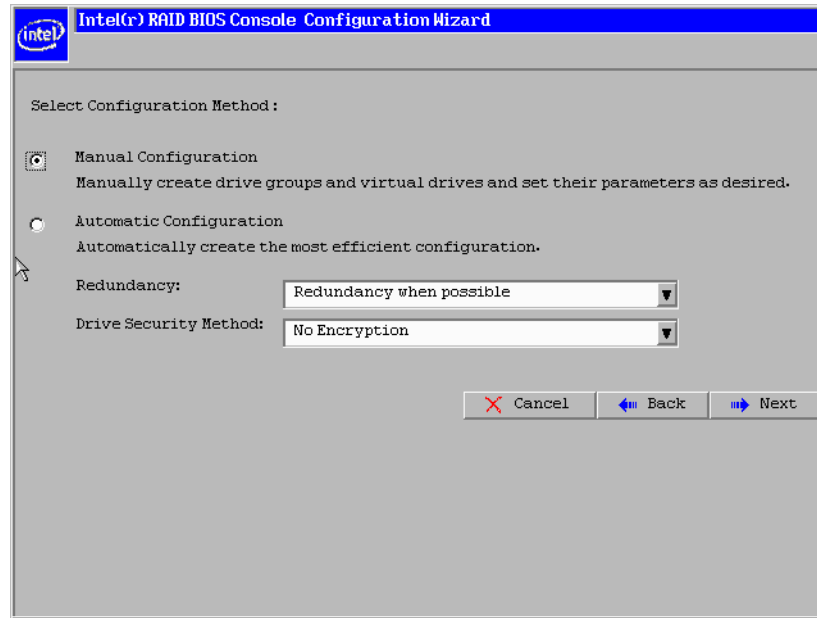

Figure 21. Intel® RAID BIOS Console 2 - Configuration Methods
3. Choose Manual Configuration and click **Next** (see Figure 21).
3. Select **Custom Configuration** and click **Next** (see Figure 21).